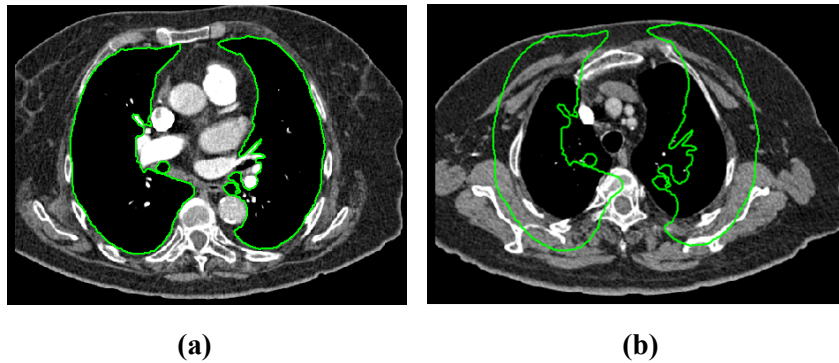

Figure 245 – Contour on the last image (a), Accepted nearest contour from the last image into the 1st image (b)
3. The nearest drawn contour is then automatically copied to the current image (see Figure 245).